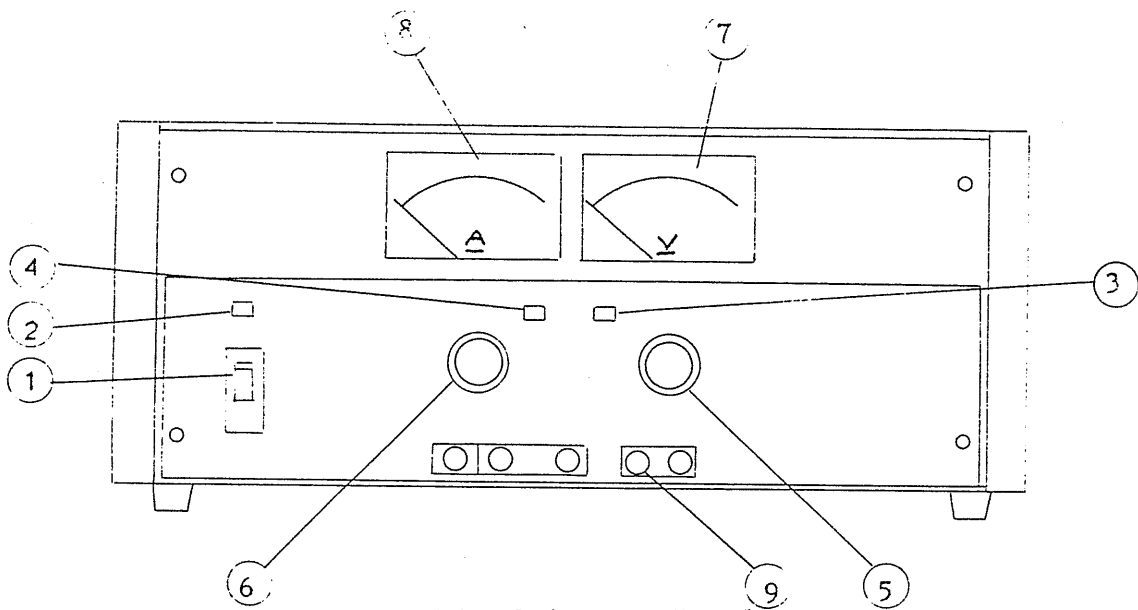

Fig. 3-1 Front Panel
3.1 Front Panel Description (See Fig. 3-1)